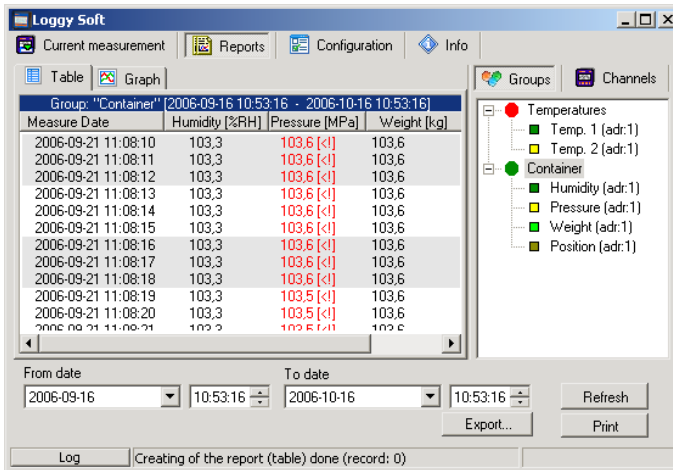

Fig. 3.3. **Reports** - menu
The **Table** tab (Fig. 3.3) is used for printing information concerning recorded measurements (e.g. temperature, humidity) in the form of a table for one of the groups or a particular measurement channel selected by the user (for more information on groups see 3.3.2 section, at page 100). This tab also enables the export of data to text format files. The exported file is formatted in a way allowing the transfer of data to a calculation sheet.
- click appropriate tab **Groups** or **Channels** (Fig. 3.3),